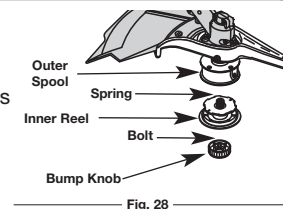

Fig. 28
1. Hold the outer spool with one hand and unscrew the Bump Knob clockwise (Fig. 28). Inspect the bolt inside the bump knob to make sure it moves freely. Replace the bump knob if damaged.
2. Remove the inner reel from the outer spool (Fig. 28).
3. Remove spring from the inner reel (Fig. 28).
- Hold the outer spool with one hand and unscrew the bump knob clockwise (Fig. 28). Inspect the bolt inside the bump knob to make sure it moves freely. Replace the bump knob if damaged.
- Remove the old inner reel from the outer spool (Fig. 28).
- Remove the spring from the old inner reel (Fig. 28).
The idle speed of the engine is adjustable. An idle adjustment screw is between the air filter cover and the engine starter housing (Fig. 28).